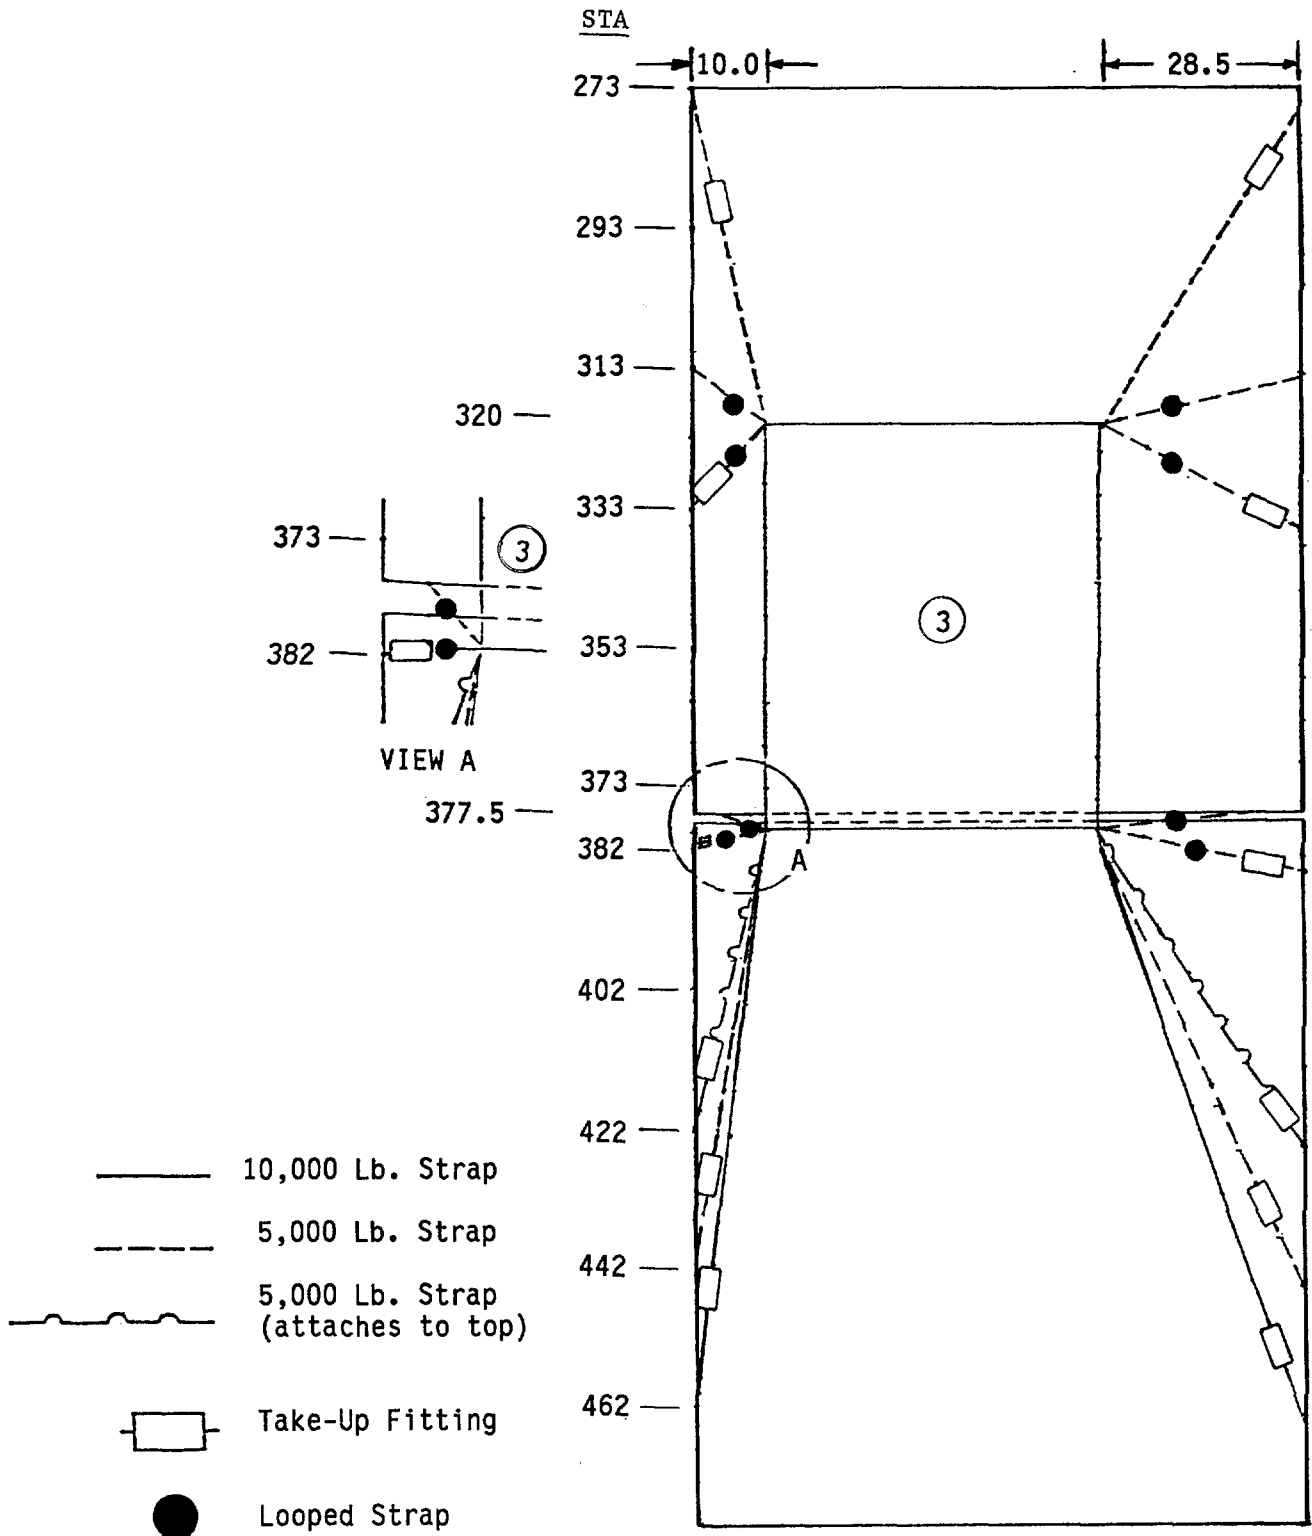

Figure 2-19. Three Tanks with Pallets
- Three tanks w/pallets, Fig 2-19